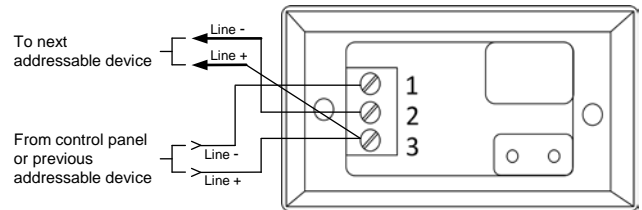

Figure 3
The TSM-1X module supports two operation modes: polarity insensitive mode and isolator mode. The module can be wired for either mode (refer to Figures 3 to 4). During the isolator mode, the built-in dual isolators will work at both sides of the module to isolate the line short in front or behind the module.
Refer to the wiring diagrams in Figures 3 and 4 and wire the TSM-1X to the device line of Desigo FC2025/FC2050/FV2025/FV2050 and Cerberus PRO FC922/FC924/FV922/FV924 Fire Alarm Systems, Document ID A6V10315023.
2. Terminate all field wires to the TSM-1X as required for your application. Refer to the connection diagrams shown in Figures 3 and 4.